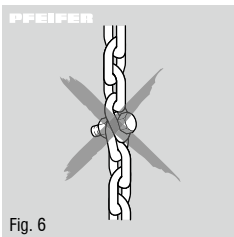

Fig. 6
- Do not put knots into the load chain, and do not join it with bolts, screws, screwdrivers or anything similar. Load chains that are permanently fitted into lifting gear must not be repaired (Fig. 6).